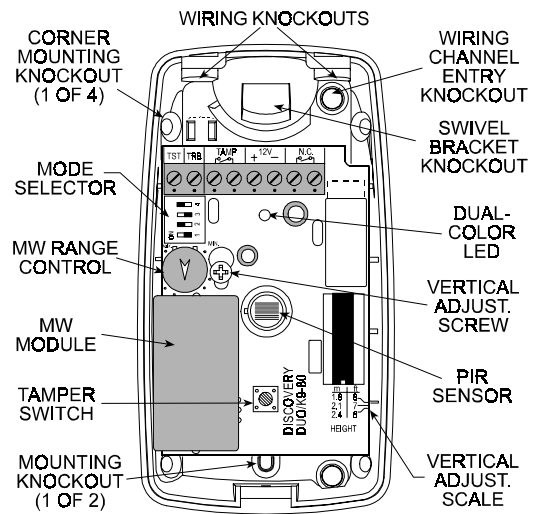
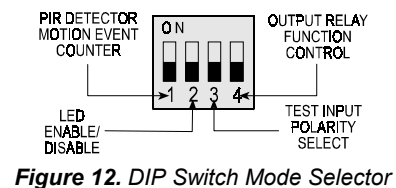

Figure 5. Inside View
Figure 12. DIP Switch Mode Selector
D. Refer to Figure 5 and punch out the mounting knockouts at the rear wall of the base (for surface mounting) or at the angled sides of the base (for corner mounting).
- E. Punch out any one of the wiring knockouts shown in Figure 5.
The DIP switch mode selector is mounted on the unit's PC board (see Figure 5). It controls four functions as demonstrated in Figure 12 and as detailed in Table 2.